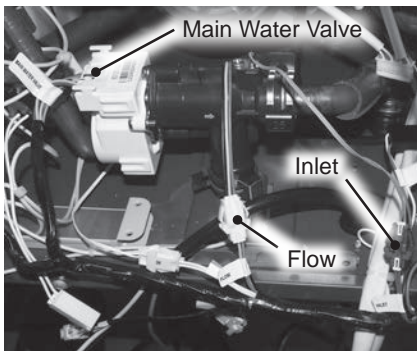

Figure 174 - Locating wiring harnesses
**14** Locate the flow control valve behind the user interface module (UIM) bracket in the water heater as shown in Figure 174. Disconnect the three (3) wiring harnesses to the valve marked:
**22** Reconnect the three (3) wiring harnesses to the flow control valve previously disconnected in **Step 14**. Confirm wiring connections are secure. See Figure 174.